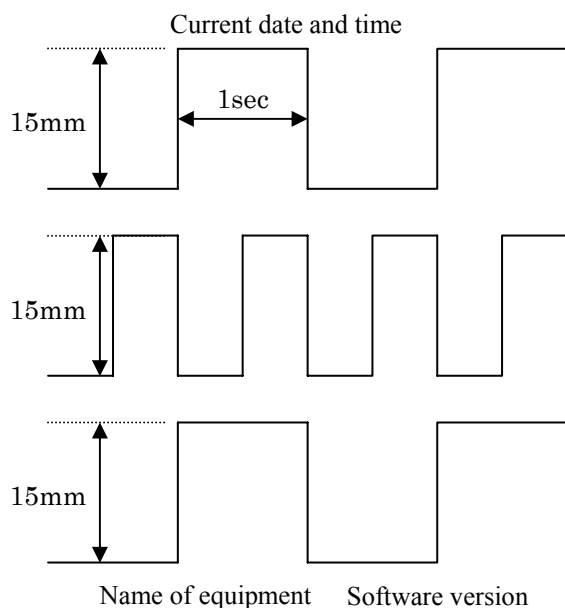
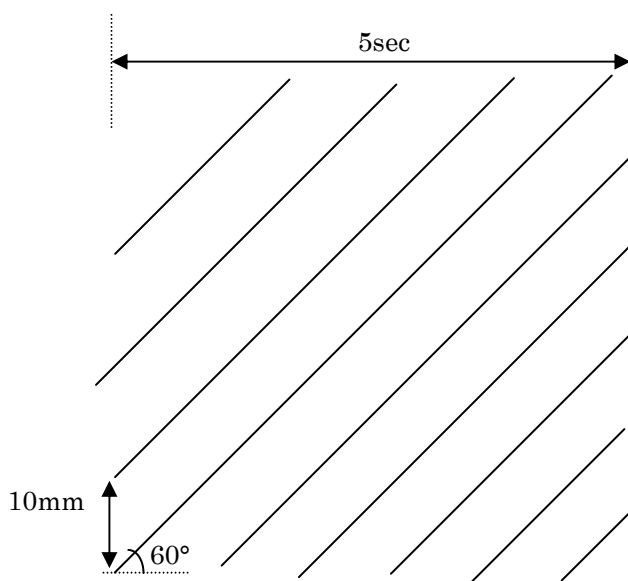

Fig1
Fig2
3. Push the [START/STOP] key, and the format shown by Fig. 1 is printed at the transfer speed of 5mm/sec, 10mm/sec, 12.5mm/sec, 25mm/sec and 50mm/sec in that order. The format shown by Fig. 2 is then printed at the transfer speed of 50mm/sec.